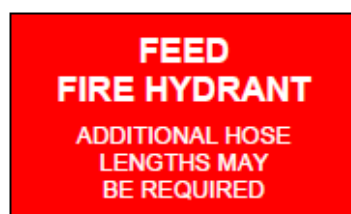

Figure 5 Example of signage required adjacent to each feed fire hydrant
- 6.2.7 A fade and weather resistant sign, A4 in size, is to be permanently affixed adjacent to each on-site feed fire hydrant, and have uppercase contrasting text which states (see Figure 5):